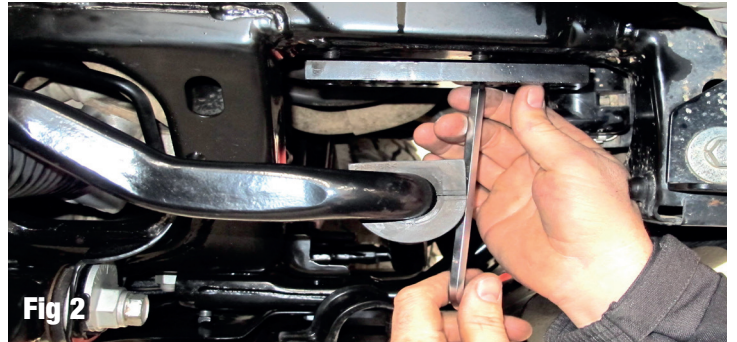

Fig 2
3. Position spacer under chassis as shown (Fig 2) aligning the relevant counterbore holes with the threaded holes in chassis. (Refer Diagram Below)